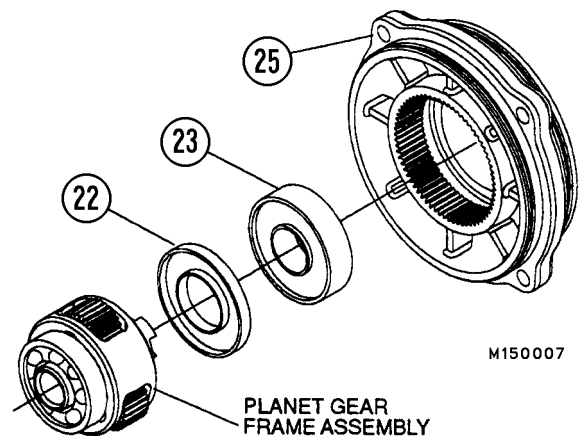

FIGURE 15-8.
16. Remove six screws (26) and retainer plate (25). Support the turbine housing and using a .650 in. (16.5 mm) maximum dia. round, press the turbine shaft (1, Figure 15-8) out of the bearing.
17. Using a puller, remove the bearing (3) and spacer (4).
Tap the intermediate pinion lightly to back the planet gear frame assembly (Figure 15-8) out of the intermediate gear case (25).
11. Remove the planet gear frame assembly (Figure 15-8) from the intermediate gear case (25). Using a sleeve that contacts the outer race of the front gear frame bearing (23), press the planet gear frame shaft seal (22) and the front gear frame bearing (23) from the front end and out of the rear of the intermediate gear case (25).